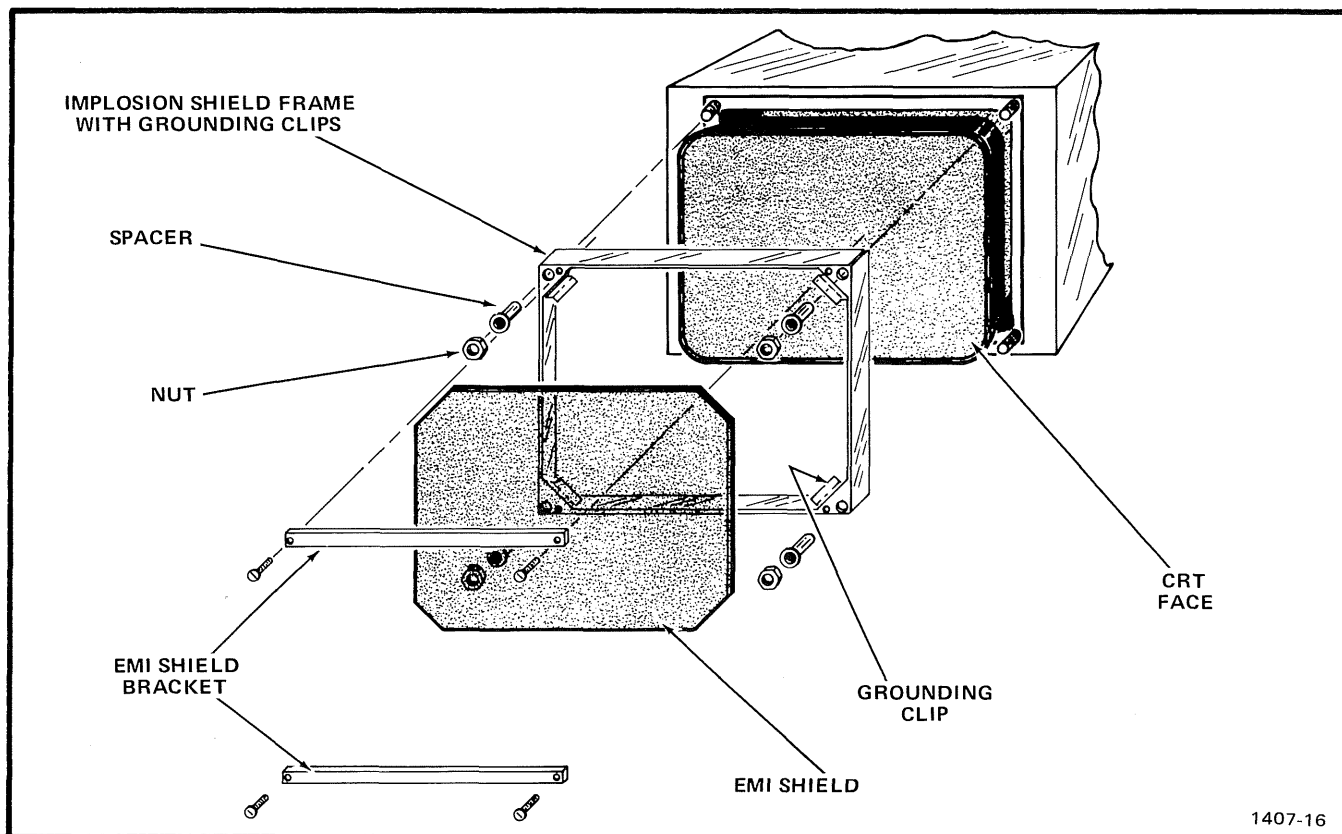

Fig. 2-2. Locations of crt securing hardware.
9. Remove the four nuts, spacers and the implosion shield frame (see Fig. 2-2).